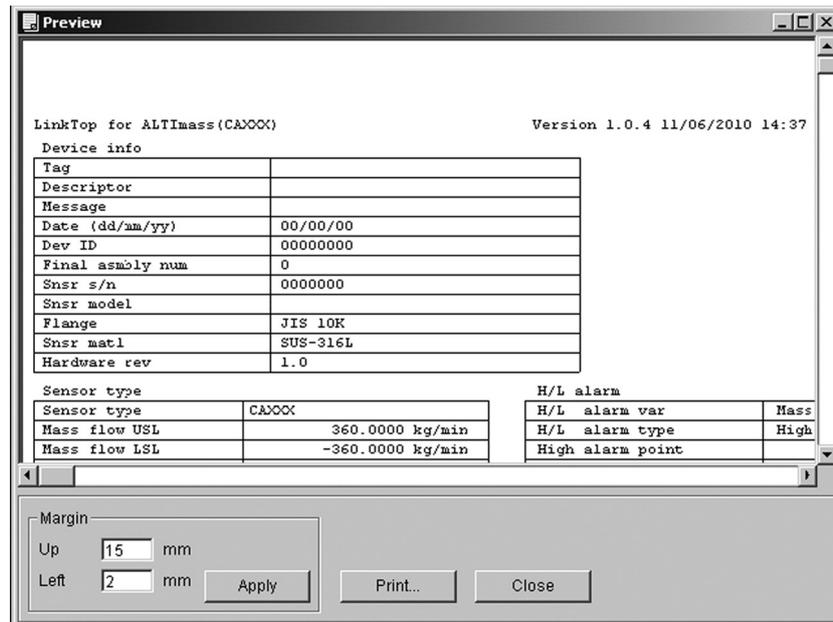

Fig.168
- ① Click the "File (F)" menu, and then select and click "Print Ctrl+P".
- ② The following window will be displayed (Fig. 168). Verify the various parameter values here, and either click the "Print" button to print, or the "Close" button to not print.